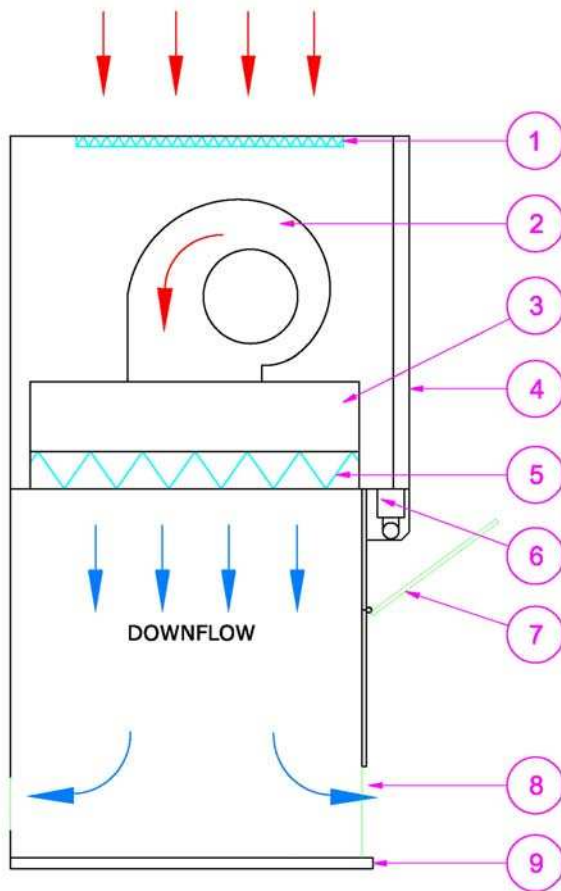

Figure 2 Sectional view DLF
The hinge-slide window (Figure 2, Pos 7) is a tightly closing, manually operated glass or plastic window. The window can be hinged or slid up or down depending on the chosen option. The window can be opened or closed.
On the front panel (Figure 2, Pos 4). is mounted:
The workroom contains a stainless steel (304) worktop (Figure 2, Pos 9).
The plenum-construction (Figure 2, Pos 3) equalizes the air through the downflow filter.
The downflow HEPA-filter* (Figure 2, Pos 5) has a very high efficiency: Class H14 in accordance with EN1822. After assembling, each filter will be tested separately. Through the service panel on the top the downflow filter can be reached.
The pre-filter (Figure 2, Pos 1) is a filtercassette in the class G4 accordance with EN779. Furthermore the pre-filter will enhance the life span of the HEPA-filter significantly.
The electronics (Figure 2, Pos 4) consists of:
The operating panel (Figure 5, Figure 2, Pos 4) consist of:
The Fluorescent-Lighting (Figure 2, Pos 6) is mounted in the Light unit.
The electric driven double suction fan (Figure 2, Pos 2) is maintenance-free.